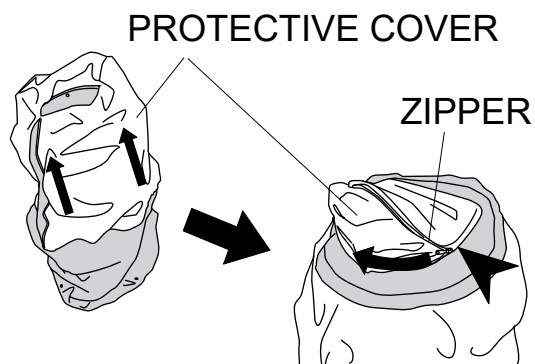

Figure 10. Folding Balloon Cover
4. Fold the balloon cover into itself and zip it up. See Figure 10.